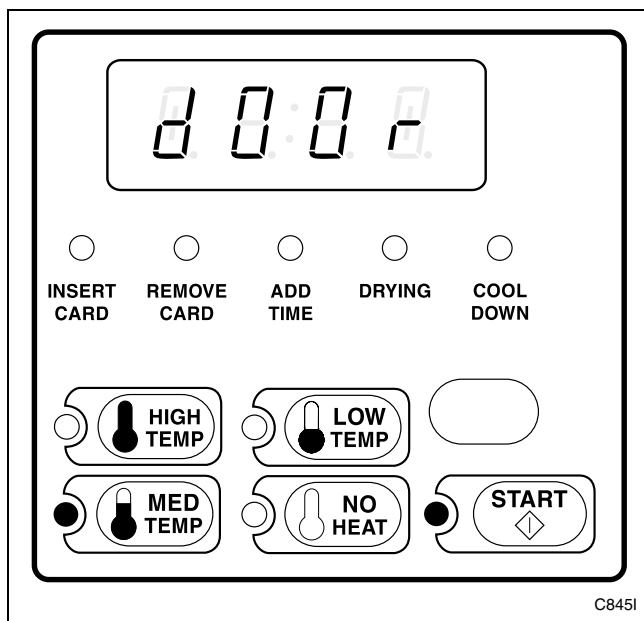

Figure 5
**NOTE: When the door is opened during an active cycle, the time will continue to count down and the VFD will display “dOOR” for five seconds on and off. Refer to Figure 5.**